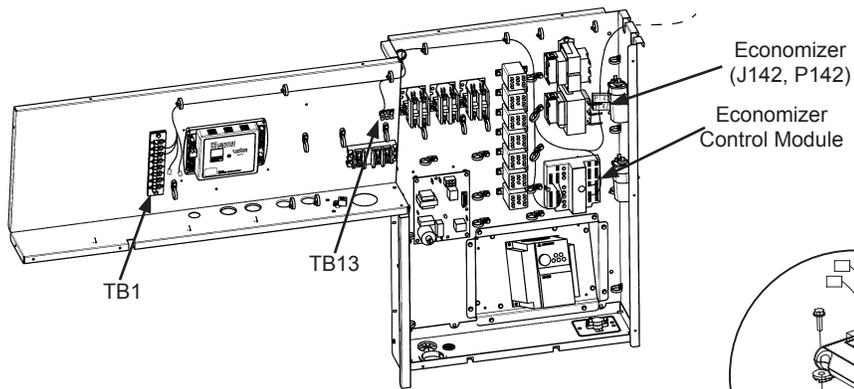

Figure 6 - HVAC Control Box
1. The economizer control module, relay and harness are located below the actuator for shipping. Relocate the control and relay to the unit control box, see Fig. 6.
2. Route the control wires to unit terminal block (TB1) and connect these wires to TB1 as follows (see Fig. 6):